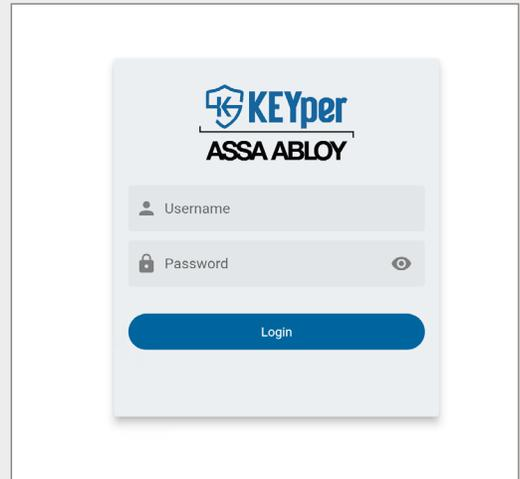

Fig. 20 – Login screen
3. On the **Login** screen, shown in **Fig. 20**, do the following depending on the status of your system: